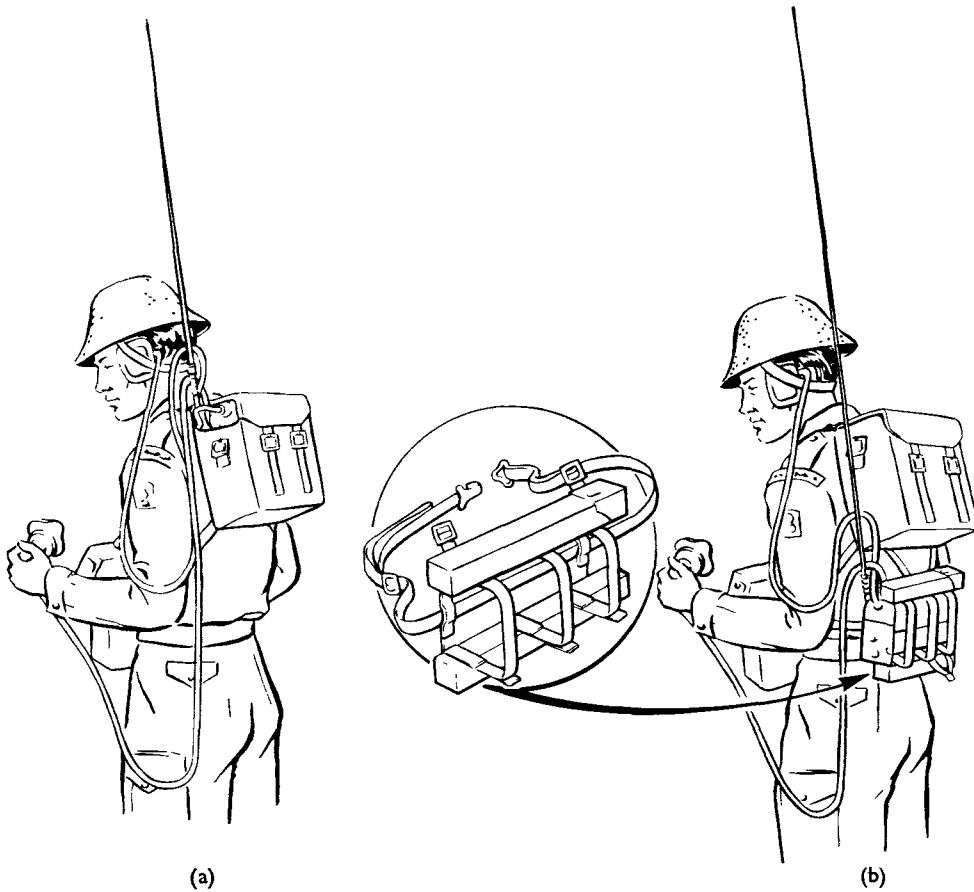

FIG. 3. ALTERNATIVE CARRYING POSITIONS
- (1) In the small pack – Illustration (a) in Fig. 3 shows the set in the small pack. The control panel faces the operator's left hand side and the ROD AERIAL socket is uppermost. The set should ride high on articles already in the pack so that the controls can be easily operated.
- (2) In the lower position – Illustration (b) shows the set mounted at the operator's waist by means of a harness, web and pad assembly. The canvas pad is attached to the waist belt by three brass double hoods. The set is then strapped to the pad so that the control panel faces the operator's left hand side with the ROD AERIAL socket uppermost. The long strap is passed round the waist and fastened in front.